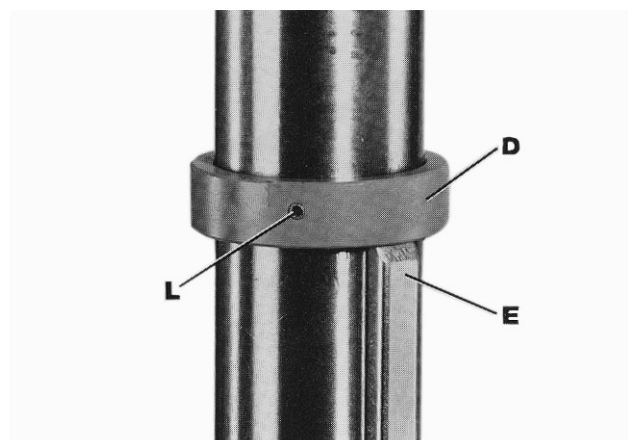

Fig. 7
6. Re-assemble ring (D) Fig. 7, which was removed in STEP 2 to column. **IMPORTANT:** Bottom of ring (D) **MUST NOT** be pushed all the way down onto top of raising rack (E). **MAKE SURE** top of raising rack (E) is under bottom of ring (D) and that there is enough clearance to allow rack (E) to rotate around the column without binding. Then tighten set screw (L) **BEING CAREFUL NOT TO OVERTIGHTEN.**